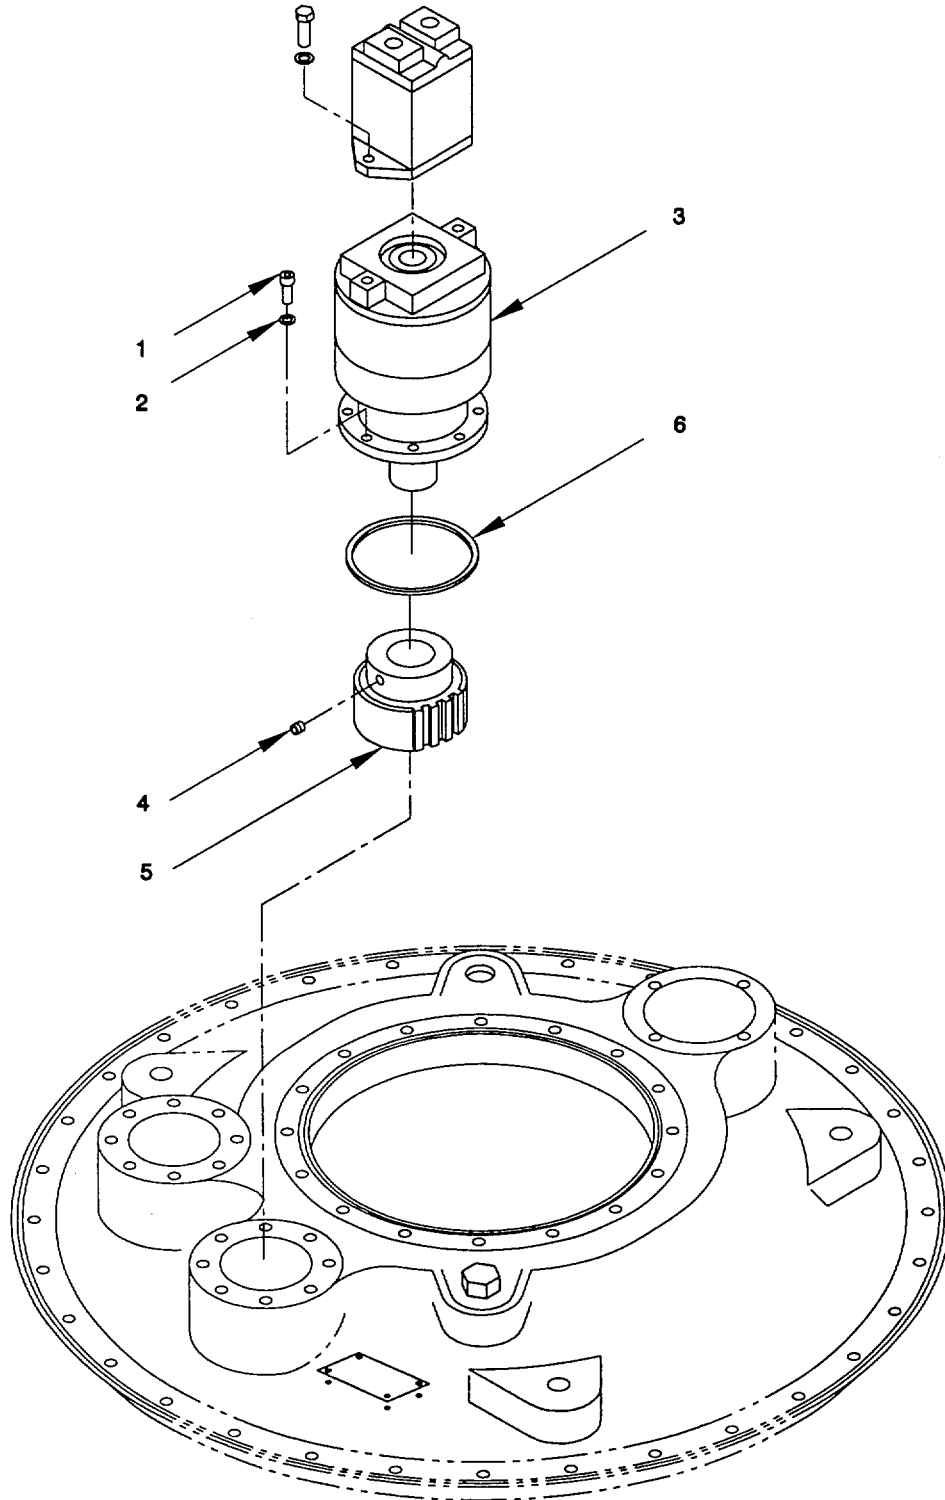

Figure 3-13. Planetary Gearing, Steering Motor, Pump-Jet, Remove/Install.
a. *Remove.* (figure 3-13)
- (1) Disconnect all hydraulic lines and steering motor.
- (2) Remove eight capscrews (1) and collect eight lockwashers (2).
- b. *Install.* (figure 3-13)